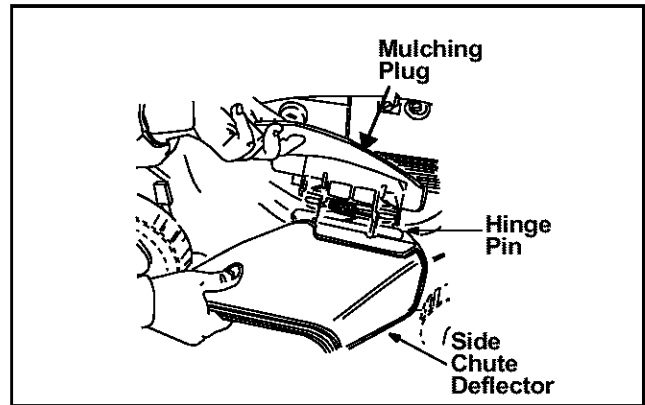

Figure 10
- Your mower has been shipped as a mulcher. To convert it to a side-discharge mower, lift the mulching plug. Slide the two hooks on the side-discharge deflector under the hinge pin on the mulching plug assembly. Lower the mulching plug. See Figure 10 .